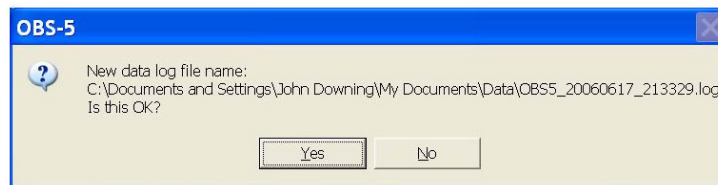
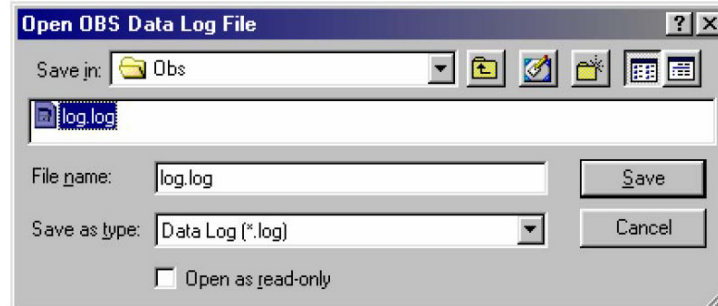

FIGURE 6-3. New data log prompt
FIGURE 6-4. Designating your own file name and destination
- 3) The *OBS-5+ Utility* will create a new data log file and prompt you to accept the name (see FIGURE 6-3). Files are automatically named with Greenwich Date and Time as follows: OBS5+\_20010808\_172433.log. Or you can create your own file name and destination by choosing **No** (see FIGURE 6-4). Data received from the OBS-5+ while it is connected to the PC will be stored in this file.